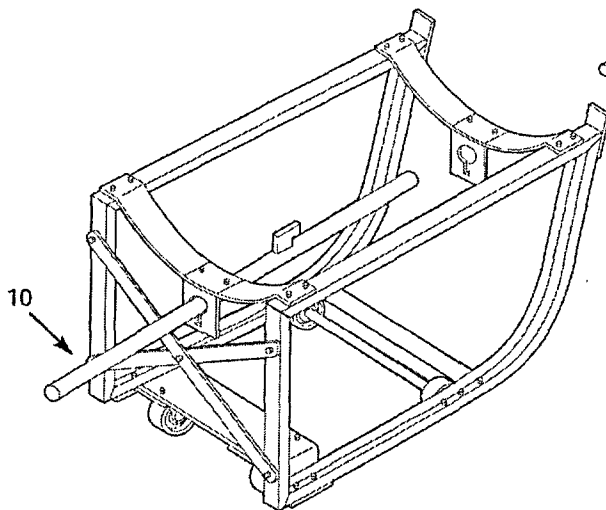

Figure 4 - Handle storage for 1GC91 and 3BA26
2. Turn the cradle over so that the wheels are on the floor. Position the unit so that the frame is as square as possible and tighten all fastening hardware. The drum hook handle (Ref. No. 10) is stored in handle brackets under Drum slings (See Figure 4).
3. Turn the cradle over so that the wheels are on the floor. Position the unit so that the frame is as square as possible and tighten all fastening hardware. The drum hook handle (Ref. No. 10) is stored in handle brackets under cross bars (See Figure 4).